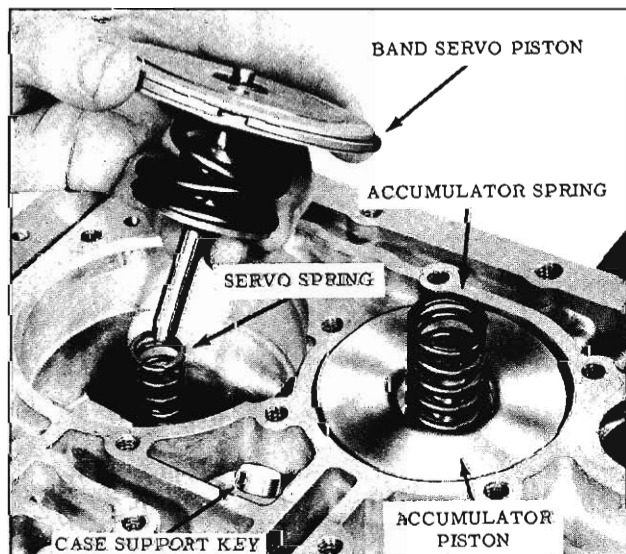

Fig. 6-117 Servo Installation
8. Install servo release spring into case bore. (Fig. 6-117)